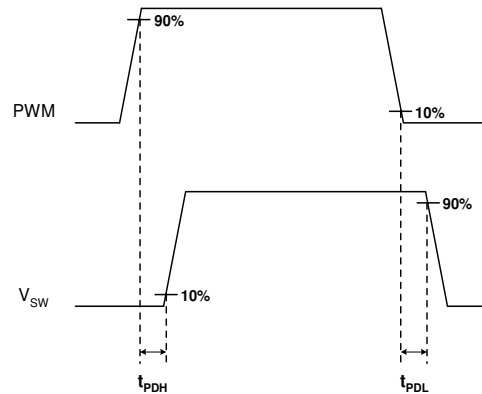

Figure 10 Timing Diagram
4. T_{PDH} and T_{PDL} are not associated with rise and fall times. Does not affect Power Loss (see Figure 10).